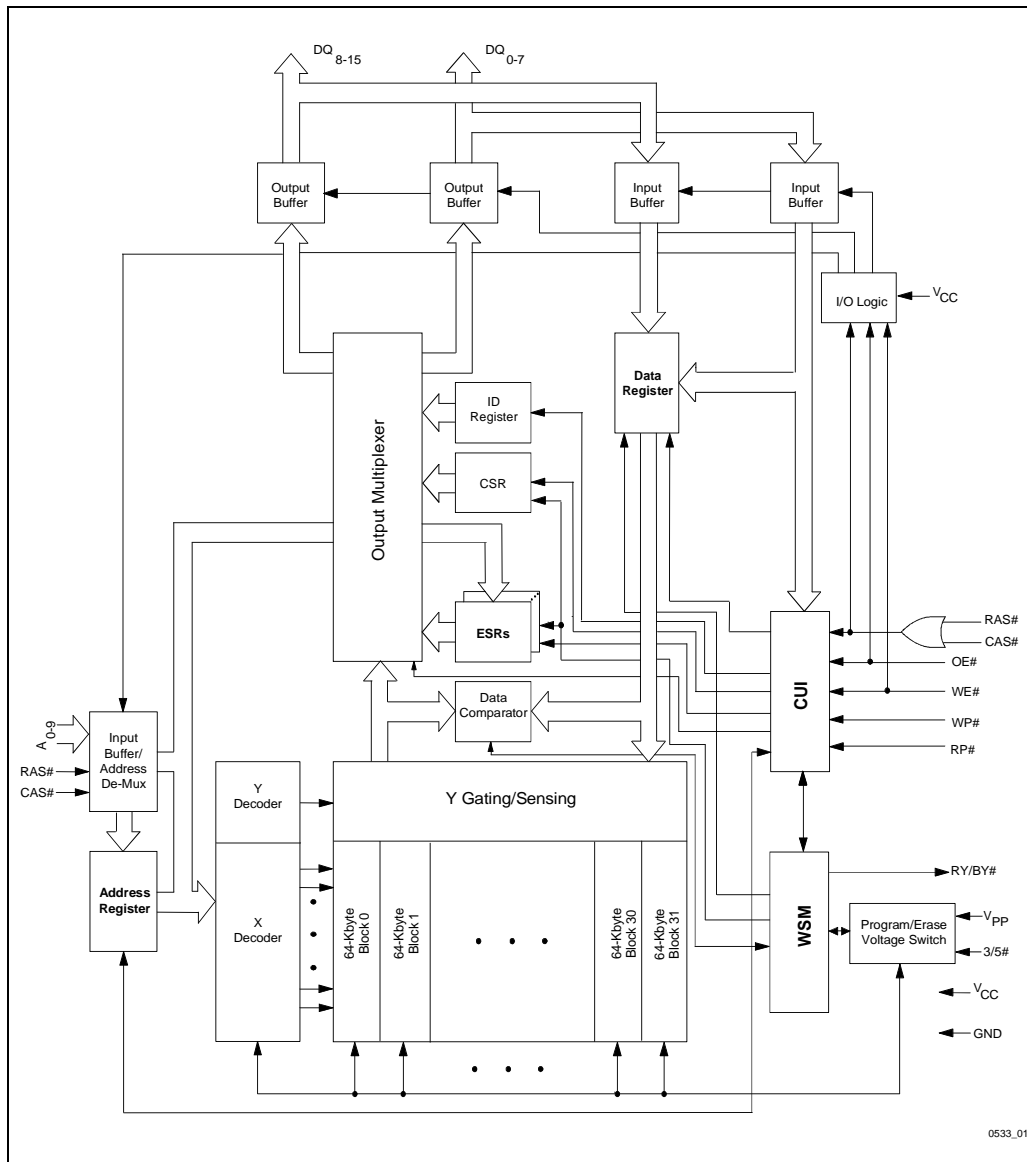
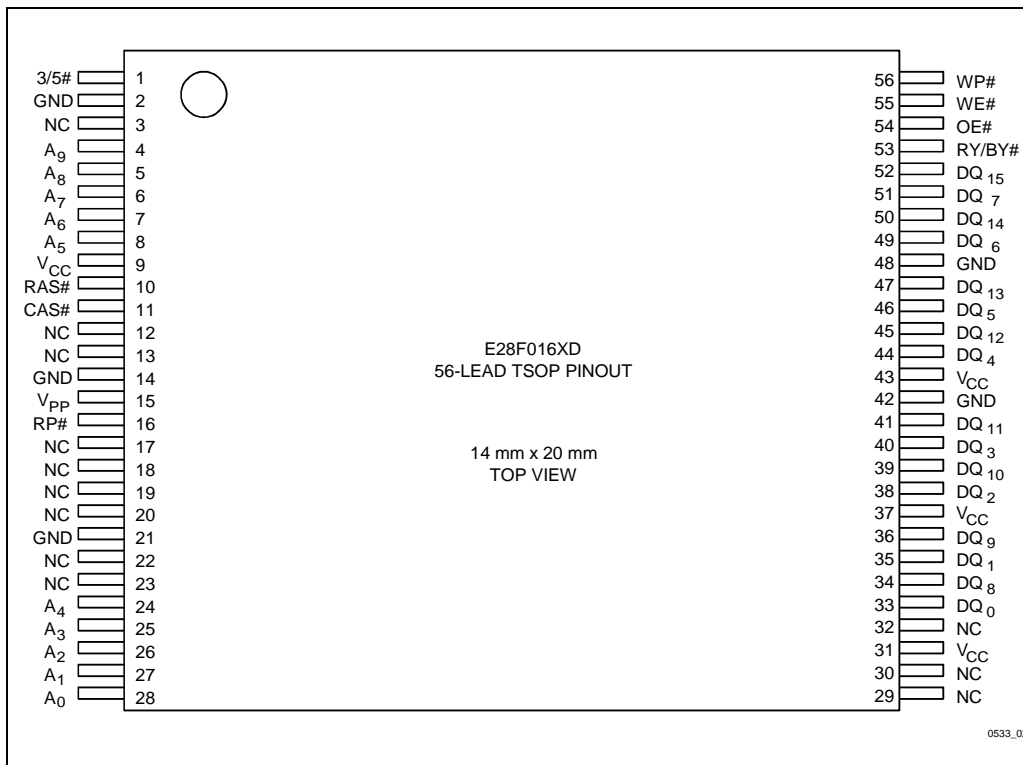

Figure 1. 28F016XD Block Diagram
Figure 2. 28F016XD 56-Lead TSOP Type I Pinout Configuration
-003	<p>Added 3/5# pin to Pinout Configuration (Figure 2), Product Overview (Section 1.1) and Lead Descriptions (Section 2.1)</p> <p>Modified Block Diagram (Figure 1): Removed Address/Data Queues, Page Buffers, and Address Counter; Added 3/5# pin</p> <p>Added 3/5# pin to Test Conditions of I_{CC2} and I_{CC5} Specifications</p> <p>Modified Power-Up and Reset Timings (Section 5.9) to include 3/5# pin: Removed t_{5VPH} and t_{3VPH} specifications; Added t_{PLYL}, t_{PLYH}, t_{YLPH}, and t_{YHPH} specifications</p> <p>Corrected TSOP Mechanical Specification A1 from 0.50 mm to 0.050 mm (Section 6.0)</p> <p>Minor cosmetic changes throughout document.</p>
In addition, a significant 28F016XD change occurred between datasheet revisions 290532-002 and 290532-003. This change centers around the addition of a 3/5# pin to the device's pinout configuration. Figure 2 shows the 3/5# pin assignment for the TSOP Type 1 package.
The 28F016XD 56-Lead TSOP Type I pinout configuration is shown in Figure 2.